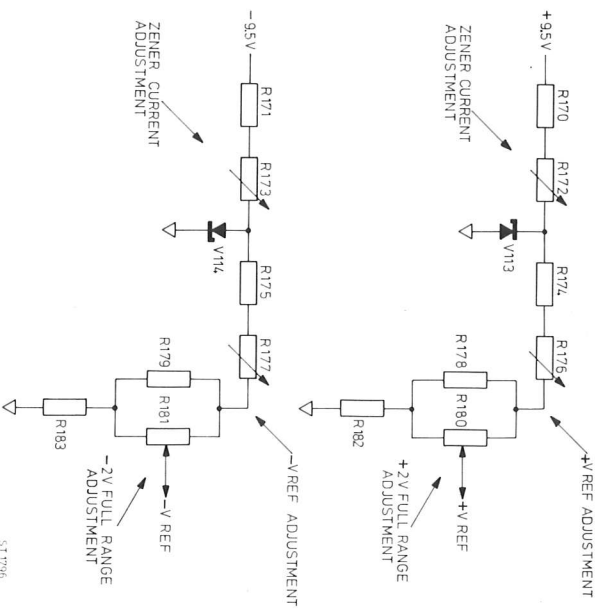

Fig. 21. + and - reference voltages
7.1.1.8. Reference voltages (Fig. 21, page 53).